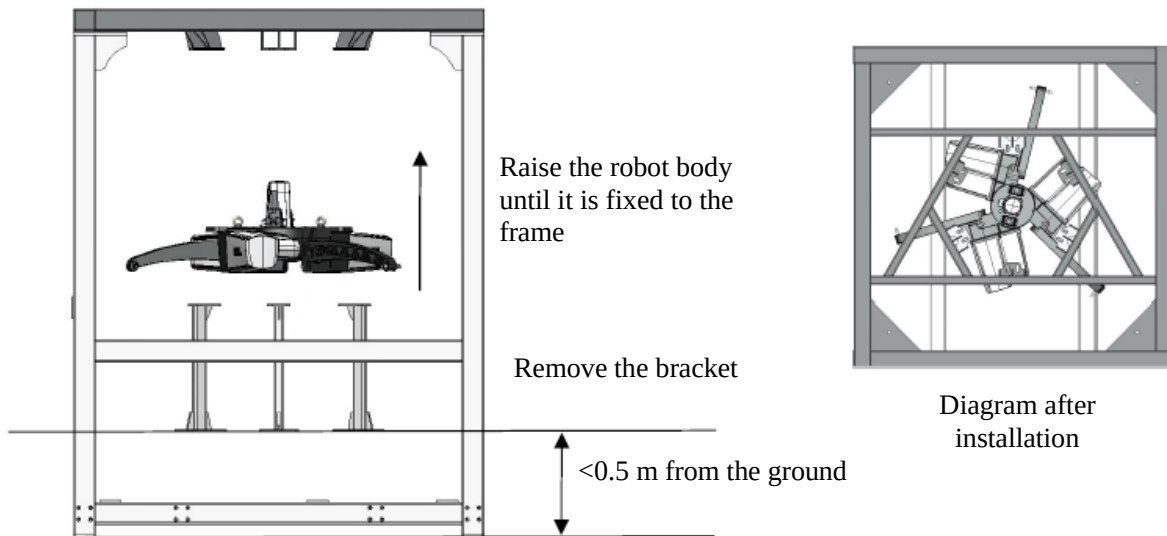

Figure 3-7 Diagram of body robot lifting and installation
3) Slowly lift the body about 0.5 m from the ground with a crane, remove the bracket, slowly lift the equipment close to the frame fixing plate, and fix the body robot to the frame with screws and spring washers removed from the bracket, as shown in Figure 3-7.